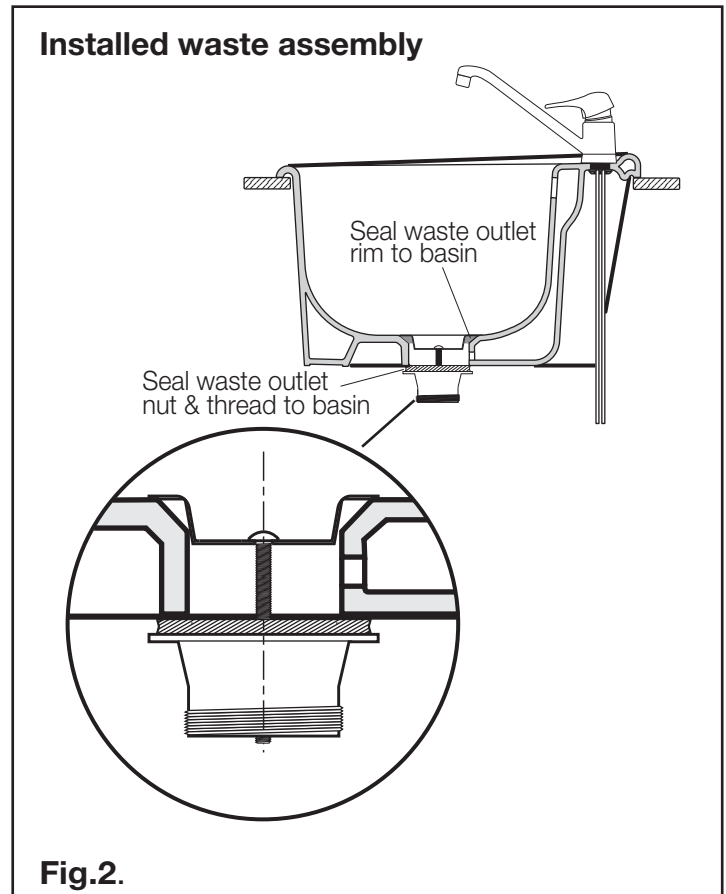

Fig.2.
3. Fit rubber seal and plastic outlet tail onto fixing bolt, and secure with fixing nut as detailed in **Fig.2**.